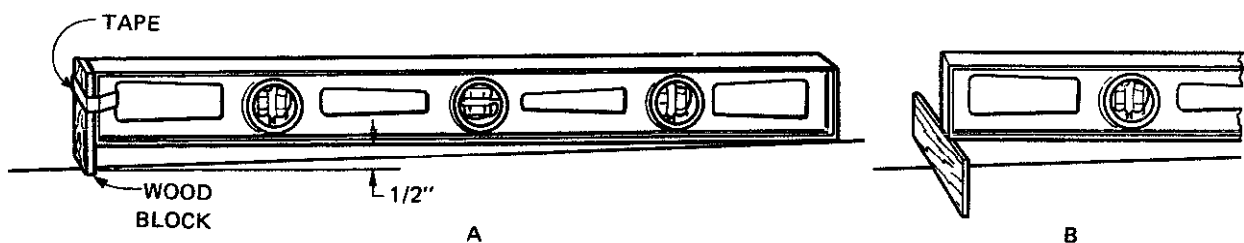

Fig. 5-8 Testing pitch with a spirit level
- At one end of the level, tape a block of wood so that it projects $1/2$ inch beyond the bottom edge as shown in figure 5-8. If only an approximate check is necessary, the block can be placed under the extreme end of the level. It is then held in place by hand until the reading is taken. See B, figure 5-8.